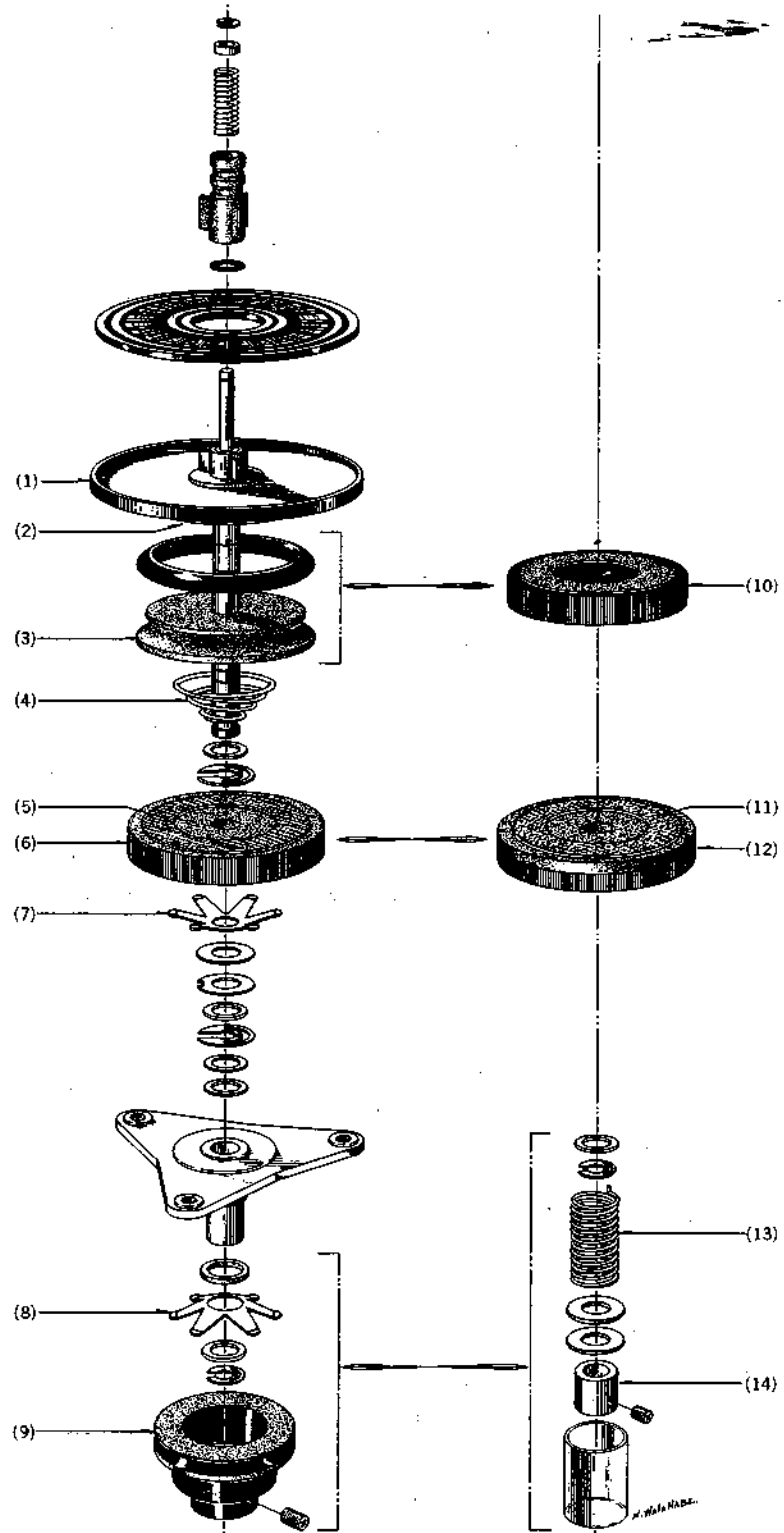

Fig. 10
2. SUPPLY REEL TABLE TENSION ADJUSTMENT (See Fig. 10 at left)
- (a) At rewind mode, the tension of felt (2) part shown in Fig. 10 should be from 400 to 500 grams when the tape is gently pulled upward with a spring gauge. If adjustment is necessary, this can be accomplished by increasing or decreasing the number of washers used.
- (b) Felt (5) is for the purpose of applying suitable clutch (back tension) at Forward and Recording modes. Measure in the same way as outlined in item (a) and adjust by strengthening or weakening the tension by increasing or decreasing the number of washers respectively to obtain 80 to 100 grams of tension.
- (c) At Fast Forward mode, the tension (free tension) should be 15 to 20 grams. To adjust, strengthen or weaken tension by increasing or decreasing the number of washers and by moving Pulley (9) up and down and tightening to fixed position with screw.
3. TAKE UP REEL TABLE TENSION ADJUSTMENT (See Fig. 10 at right)